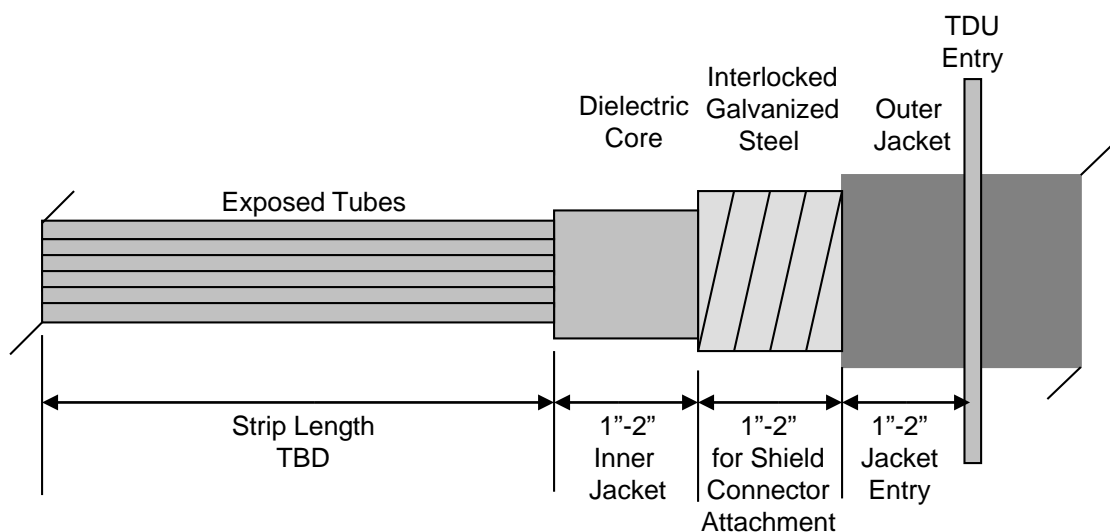

Figure 2
5.1 Route tube cable end into Tube Distribution Unit (TDU) and mark where outer jacket and excess tube cable length are to be cut. **See Fig. 2.**